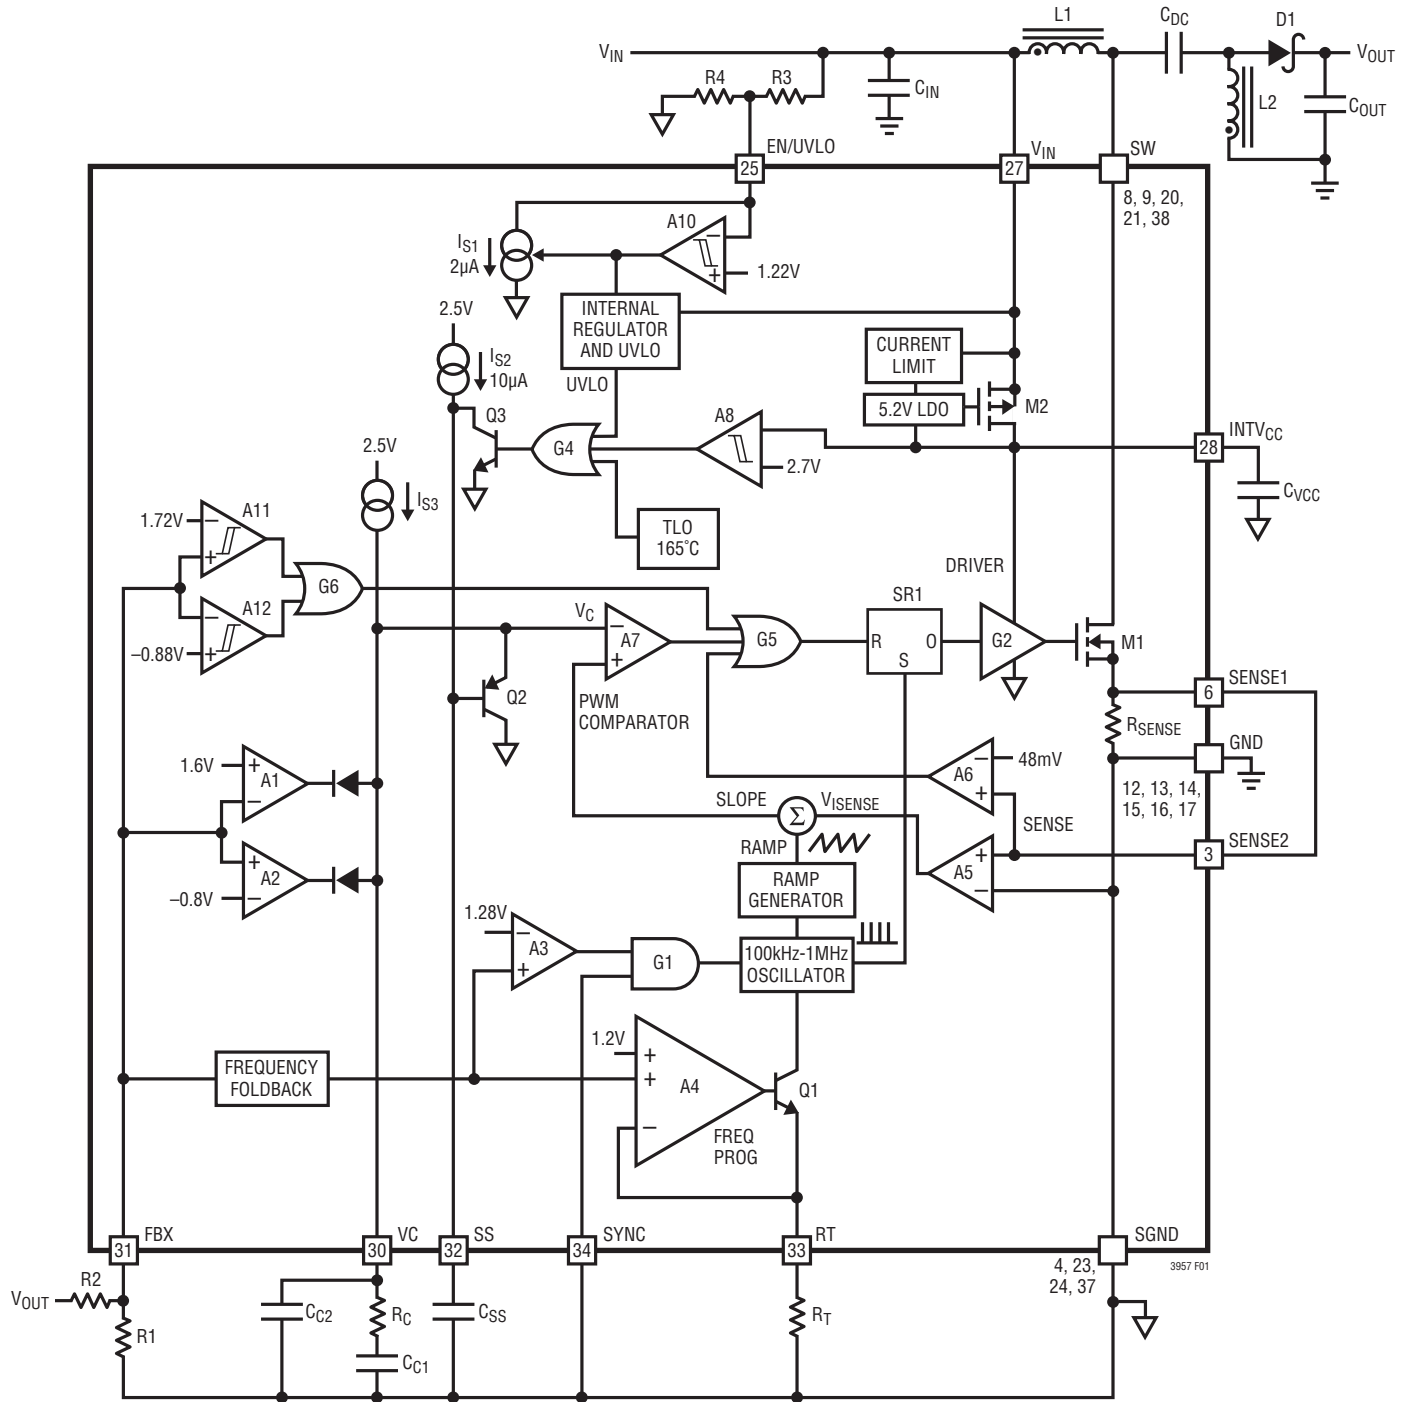

Figure 1. LT3957 Block Diagram Working as a SEPIC Converter
The LT3957 uses a fixed frequency, current mode control scheme to provide excellent line and load regulation. Operation can be best understood by referring to the Block Diagram in Figure 1.
The LT3957 is capable of generating either positive or negative output voltage with a single FBX pin. It can be configured as a boost, flyback or SEPIC converter to generate positive output voltage, or as an inverting converter to generate negative output voltage. When configured as a SEPIC converter, as shown in Figure 1, the FBX pin is pulled up to the internal bias voltage of 1.6V by a voltage divider (R1 and R2) connected from V_{OUT} to SGND. Comparator A2 becomes inactive and comparator A1 performs the inverting amplification from FBX to VC. When the LT3957 is in an inverting configuration, the FBX pin is pulled down to $-0.8V$ by a voltage divider connected from V_{OUT} to SGND. Comparator A1 becomes inactive and comparator A2 performs the noninverting amplification from FBX to VC.
The purpose of this current is to allow the user to program the rising hysteresis. The Block Diagram of the comparator and the external resistors is shown in Figure 1. The typical falling threshold voltage and rising threshold voltage can be calculated by the following equations:
An internal, low dropout (LDO) voltage regulator produces the 5.2V INTV_{CC} supply which powers the gate driver, as shown in Figure 1. The LT3957 contains an undervoltage lockout comparator A8 for the INTV_{CC} supply. The INTV_{CC} undervoltage (UV) threshold is 2.7V (typical), with 0.1V hysteresis, to ensure that the internal MOSFET has sufficient gate drive voltage before turning on. When INTV_{CC} is below the UV threshold, the internal power switch will be turned off and the soft-start operation will be triggered. The logic circuitry within the LT3957 is also powered from the internal INTV_{CC} supply.
If LT3957 operates at a low V_{IN} and high switching frequency, the voltage drop across the drain and the source of the LDO PMOS (M2 in Figure 1) could push INTV_{CC} to be below the UV threshold. To prevent this from happening, the INTV_{CC} pin can be shorted directly to the V_{IN} pin. V_{IN} must not exceed the INTV_{CC} Absolute Maximum Rating (8V). In this condition, the internal LDO will be turned off and the gate driver will be powered directly from V_{IN}. It is recommended that INTV_{CC} pin be shorted to the V_{IN} pin if V_{IN} is lower than 3.5V at 1MHz switching frequency, or V_{IN} is lower than 3.2V at 100kHz switching frequency. With the INTV_{CC} pin shorted to V_{IN}, however, a small current (around 16μA) will load the INTV_{CC} in shutdown mode.
The choice of operating frequency may be determined by on-chip power dissipation (a low switching frequency may be required to ensure IC junction temperature does not exceed 125°C), otherwise it is a trade-off between efficiency and component size. Low frequency operation improves efficiency by reducing gate drive current and MOSFET and diode switching losses. However, lower frequency operation requires a physically larger inductor. Switching frequency also has implications for loop compensation. The LT3957 uses a constant-frequency architecture that can be programmed over a 100kHz to 1000kHz range with a single external resistor from the R_T pin to SGND, as shown in Figure 1. A table for selecting the value of R_T for a given operating frequency is shown in Table 1.
The output voltage V_{OUT} is set by a resistor divider, as shown in Figure 1. The positive and negative V_{OUT} are set by the following equations:
The LT3957 addresses this mechanism with the SS pin. As shown in Figure 1, the SS pin reduces the power MOSFET current by pulling down the VC pin through Q2. In this way the SS allows the output capacitor to charge gradually toward its final value while limiting the start-up peak currents. The typical start-up waveforms are shown in the Typical Performance Characteristics section. The inductor current I_L slewing rate is limited by the soft-start function.
Loop compensation determines the stability and transient performance. The LT3957 uses current mode control to regulate the output which simplifies loop compensation. The optimum values depend on the converter topology, the component values and the operating conditions (including the input voltage, load current, etc.). To compensate the feedback loop of the LT3957, a series resistor-capacitor network is usually connected from the VC pin to SGND. Figure 1 shows the typical VC compensation network. For most applications, the capacitor should be in the range of 470pF to 22nF, and the resistor should be in the range of 5k to 50k. A small capacitor is often connected in parallel with the RC compensation network to attenuate the VC voltage ripple induced from the output voltage ripple through the internal error amplifier. The parallel capacitor usually ranges in value from 10pF to 100pF. A practical approach to design the compensation network is to start with one of the circuits in this data sheet that is similar to your application, and tune the compensation network to optimize the performance. Stability should then be checked across all operating conditions, including load current, input voltage and temperature. Application Note 76 is a good reference on loop compensation.